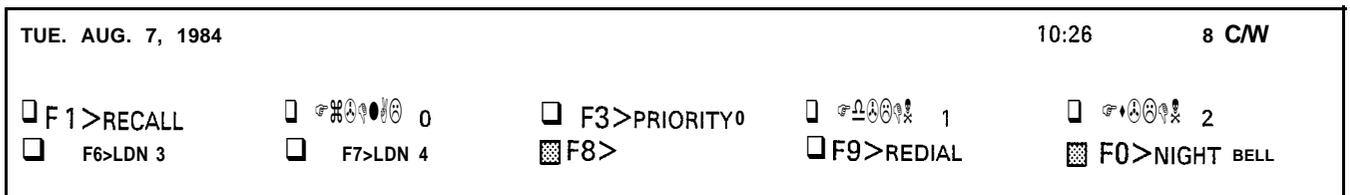

Figure 3-3 Example of Display Associative Keys for Incoming Calls
3.05 When a call is routed to the Attendant Console, line 1 of the display will indicate the date, time and total number of calls waiting. Line 2 is blank and lines 3 and 4 display the available softkey functions. Refer to Figure 3-3.
3.07 To answer a specific call, the Attendant must activate the appropriate softkey. In the above example of Figure 3-3 a total of eight calls are waiting; One RECALL, one DIAL '0', one PRIORITY DIAL '0', four LDN (Listed Directory Number) and one NIGHT ANS call. The following paragraphs describe the softkey functions for incoming calls.